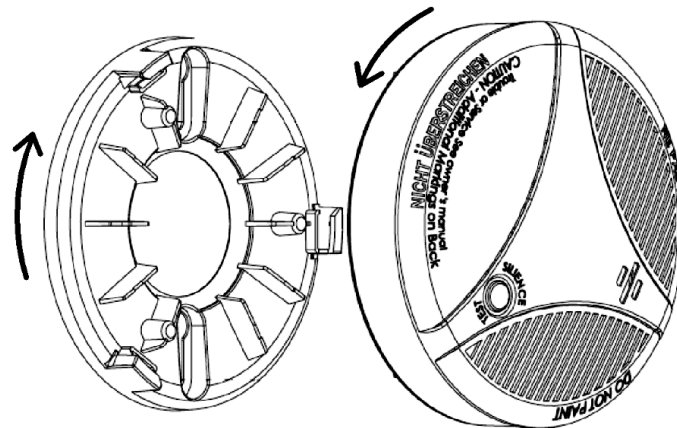

Fig. 7: Removing the Mounting Bracket
2. Remove the Mounting Bracket from your detector by rotating it counterclockwise, shown in Fig. 7.